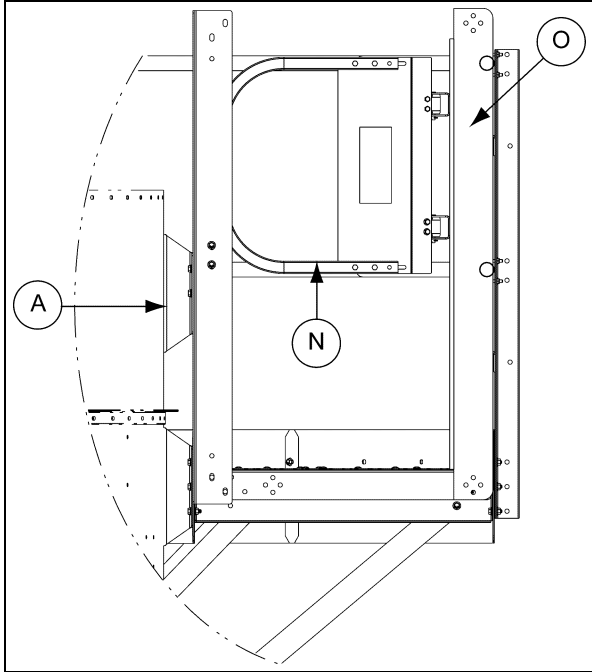

Figure 4H
9. Install the gate assembly (N) to the gate post (O). (See Figure 4H.)